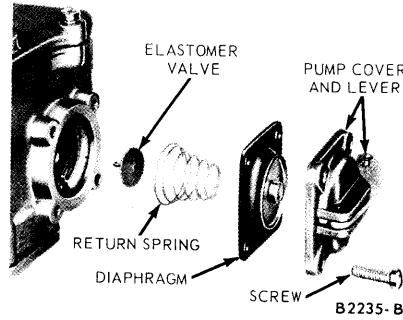

FIG. 20—Accelerating Pump Assembly
6. Remove the accelerating pump operating rod retainer. To release the rod from the retainer clip, press the tab ends of the clip together; then, at the same time, press the rod away from the clip until it is disengaged. Remove the rod. Remove the accelerating pump cover, diaphragm assembly and spring (Fig. 20).
5. If the Elastomer valve was removed, lubricate the tip of a new Elastomer valve and insert the tip into the accelerator pump cavity center hole (Fig. 20). Using a pair of needle nosed pliers, reach into the fuel bowl and grasp the valve tip. Pull the valve in until it seats